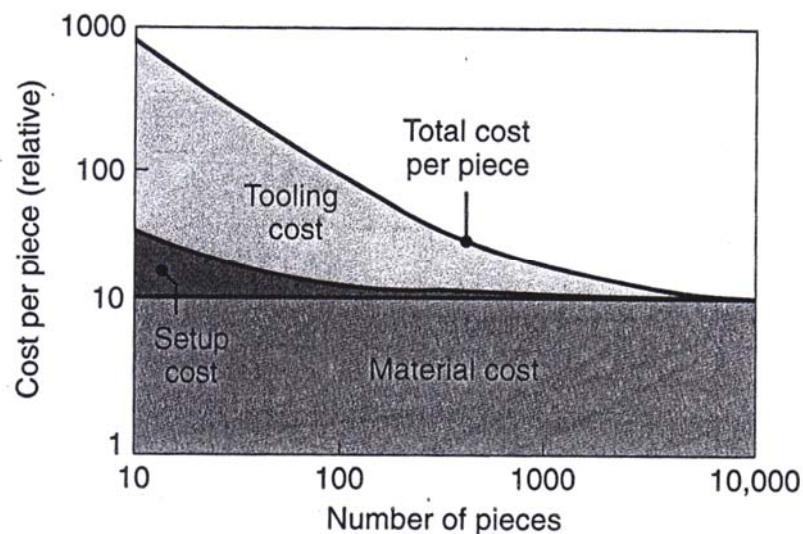

Figure Q5[a]
- Q5. [a] Several factors are involved in the cost of forgings, depending on complexity of the forging part, tool and die costs. Figure Q5[a] show the typical cost in forging including tooling cost, setup cost and material cost. Comment the effect of number of part to cost per part for each of cost involved.**